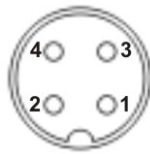

Figure 3-21: Power Input Connector
- CN Pinouts:** See Table 3-6 and Figure 3-21